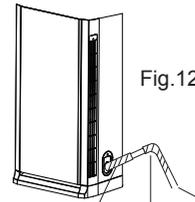

Fig.12
4. After connecting, check if water can discharge properly or if there is any leakage. (As shown in Fig.12)